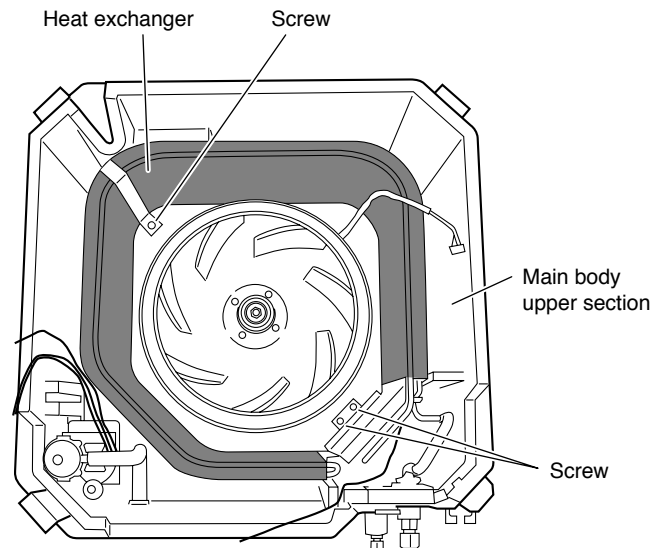

Fig.25
- (2) Remove the 3 screws. (Fig. 25)
- (3) Remove the heat exchanger from the main body upper section with the heat exchanger lifted.